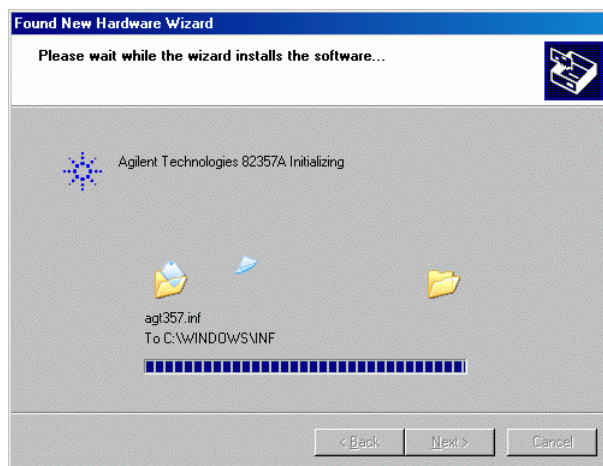

Figure 46 Installing the 82357A USB-GPIB Interface in Windows XP, second detection
- 10 The system initializes the 82357A USB-GPIB Interface device. This might take some seconds (see Figure 46). Please wait until the configuration screen appears, see step 14.